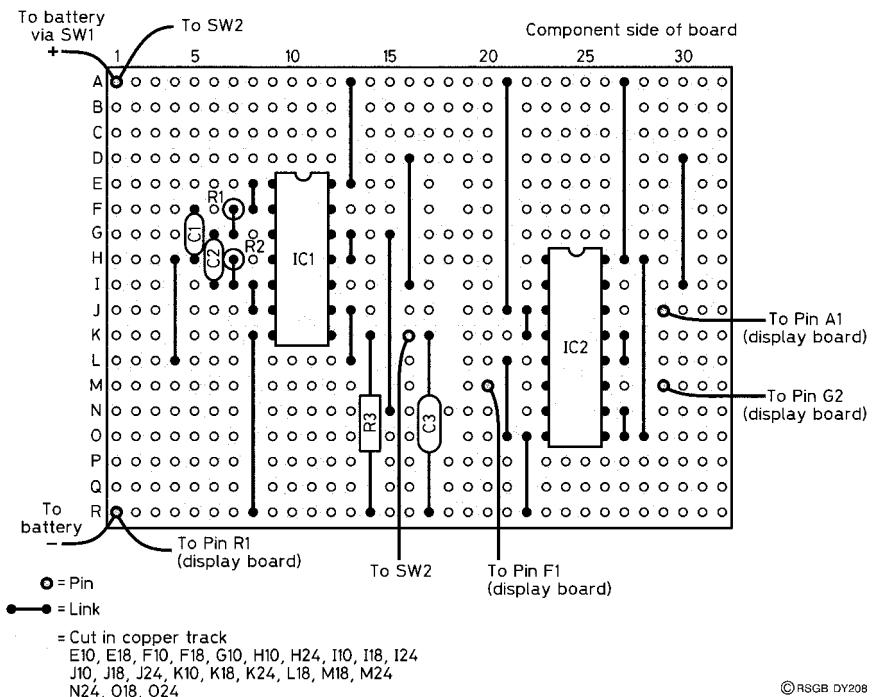

Figure 2 Main board, component layout
Two pieces of Veroboard (of the strip type) are needed – one for the main circuit (**Figure 2**) and the other for the display LEDs (**Figure 3**). The display board is easier to build, so we will do that first. It measures 20 holes by 18 strips.
The main board measures 32 holes by 18 strips. As before, remove the tracks in the places shown in Figure 2. Note that track ‘L’ is *not* broken under the position for IC2. Solder in the IC holders and the links. Solder in R1 and R2 vertically, and R3 horizontally. Then solder in C1, C2 and C3; these all being electrolytics, check their polarities. Solder in the Veropins and prepare the connections to those components not on the main board, using stranded, insulated wire. Check the circuit carefully, and read the handling precautions given earlier before carefully inserting the two ICs.
- Disconnect the lead to D7 on the main board (marked 'to pin F1' on Figure 2). Touch the lead on to the positive supply rail. D7 should light. Now transfer this lead on to pin 4 of IC1. If it flickers, then the oscillator is running (which it should).